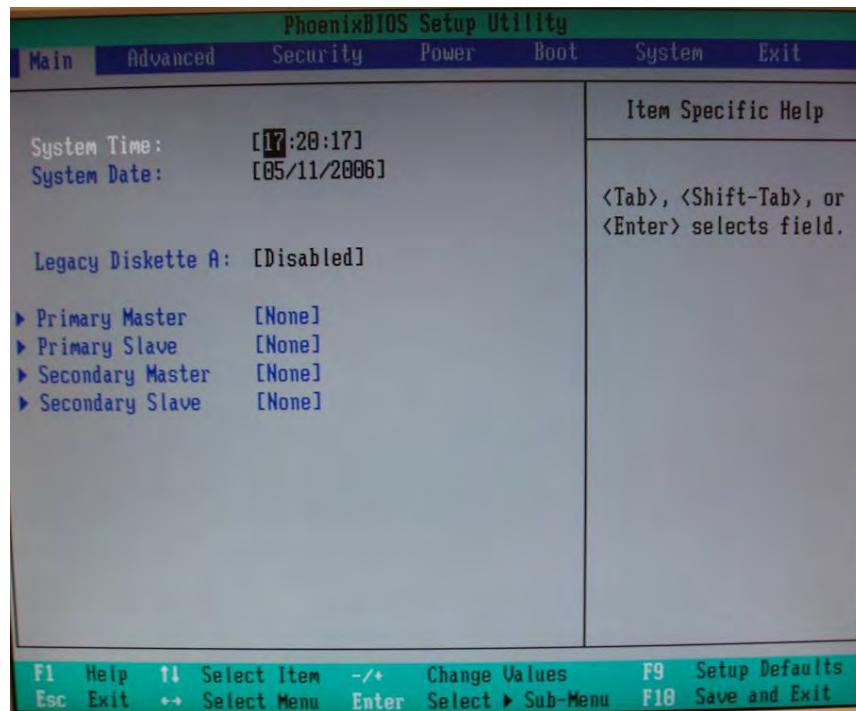

Figure 1-96. BIOS Start Screen
3. The main "PhoenixBIOS Setup Utility" screen is displayed (Figure 1-96).